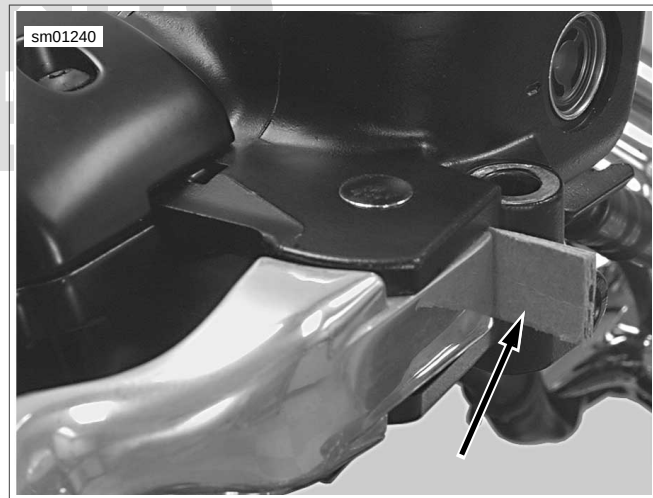

Figure 2-70. Install Cardboard Insert Before Removing Master Cylinder Assembly
5. See Figure 2-70. Squeeze front brake lever and place a 5/32 in. (4 mm) thick cardboard insert between brake lever and lever bracket. Release brake lever.